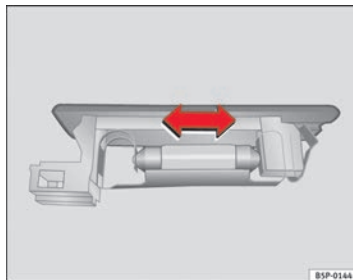

Fig. 162 Luggage compartment light
- Press the bulb sideways and remove it from its housing ⇒ fig. 162. ■